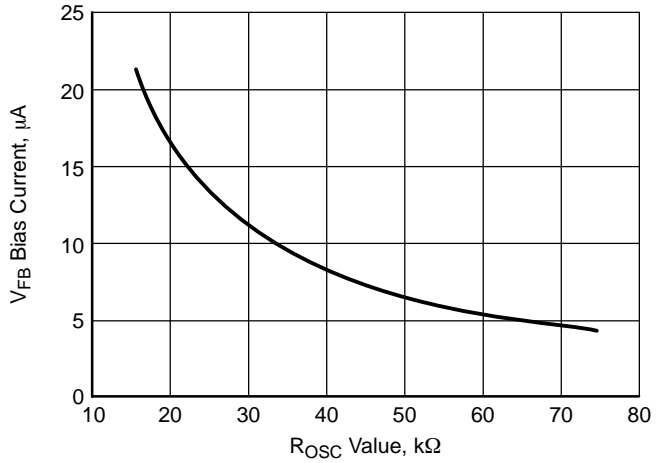

Figure 5. V_{FB} Bias Current vs. R_{osc} Value
3. The V_{FB} Bias Current changes with the value of R_{OSC} per Figure 5.